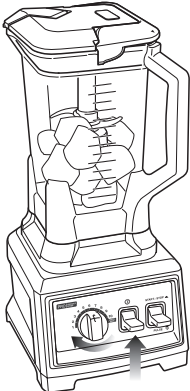

Fig. 6
- 10 Turn the Variable Speed Dial to speed 1. (Fig. 6) The power indicator light (Ⓟ) will now turn on. To start the blender, press the "Power" toggle up, then press the "Start/Stop/Pulse" toggle up to start processing. Slowly increase to desired speed.